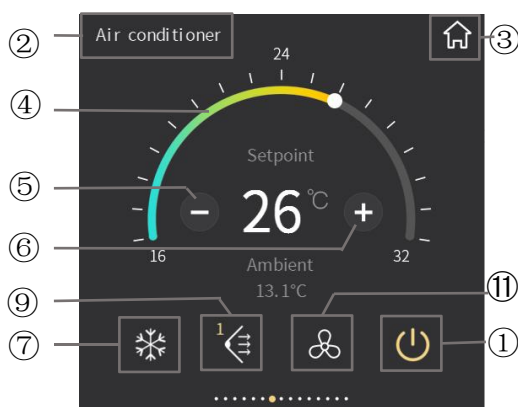

Fig.2.4.1
- ② This area displays the page description identification of Air-Conditioner control, user can define the description through ETS;
- ③ Return to Home page by touching this icon;
- ④ Adjust the setting temperature by sliding this ring slider;
⑤ The function of this icon is to decrease the temperature;
⑥ The function of this icon is to increase the temperature.
Adjusting the temperature by sliding the ring slider④ or touching the icon⑤ and icon⑥. For each touching of icon⑤ and icon⑥, the adjustment range is 1.0 degrees. When the setting temperature unit is set to degrees Celsius(°C), as shown in Fig.2.4.1, adjustment range of the setting temperature is 16~32°C by default; when the setting temperature unit is set to Fahrenheit(°F), the current temperature value will automatically convert to Fahrenheit value, as shown in Fig.2.4.2, adjustment range of the setting temperature is 61~90°F by default. The temperature adjustment range can be modified through parameter setting.
Under fixed fan direction, select one of the 5 options (#1,#2,#3,#4,#5) for fan direction position, for instance, select #1, interface as shown in Fig.2.4.5, then touch the area outside the sub-window to return the previous level function page, the position selected will be shown on the fan direction icon of the function page, as shown in Fig.2.4.1. For swing fan direction, because fan direction change all the time, there would be no fixed position, only display swing fan direction icon on the interface.
Fan speed adjustment of fan direction set to be disable or enable by parameter configuration. When disable, there will be no fan speed item shown on the interface, as shown in Fig.2.4.1; when enable, fan direction can be adjusted.